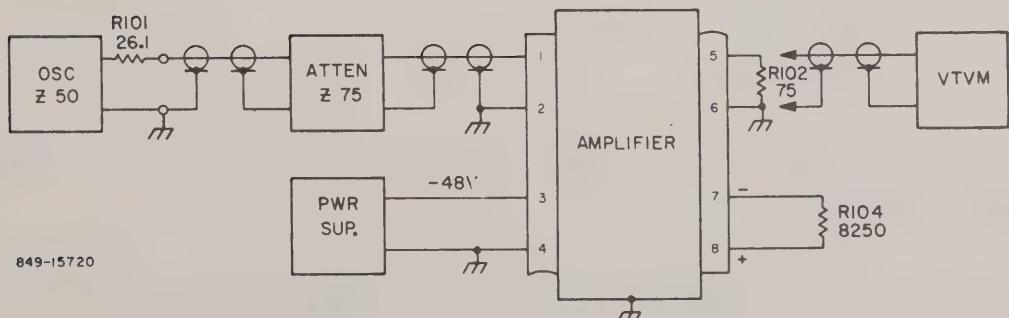

Figure 2-1. Amplifier Test Circuit Diagram
2-2. Complete data for testing the amplifier is provided by figure 2-1 and table 2-1.
- a. Set up test circuits shown in figure 2-1. Connections to module are to be made through electron tube socket.